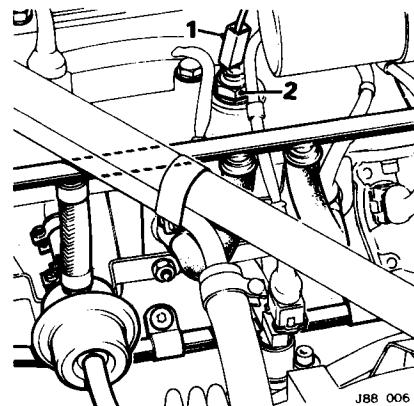
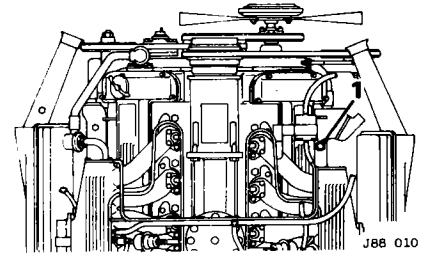

Fig. 6
Fig. 7
Disconnect the connector on top of the transmitter (1), and withdraw the transmitter (2, Fig. 6). 6 cylinder cars or (1, Fig. 7) 12 cylinder cars.